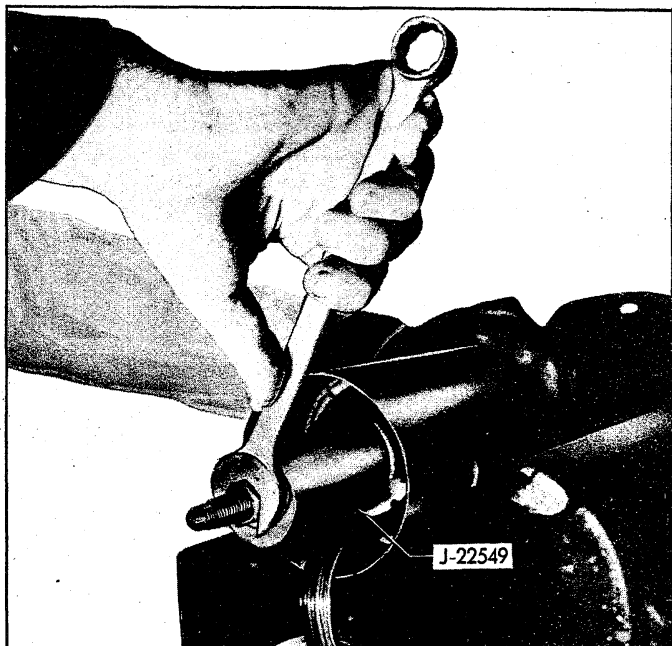

Fig. 46—Installing Shift Tube Using Shift Tube Installer Tool J-22549
11. Carefully install shift tube in lower end of mast jacket. On automatic columns, align keyway in tube with key in bowl. Complete installation of shift tube using shift tube installer Tool J-22549 as shown in Figure 46. Do not hammer or force tube when installing in jacket.